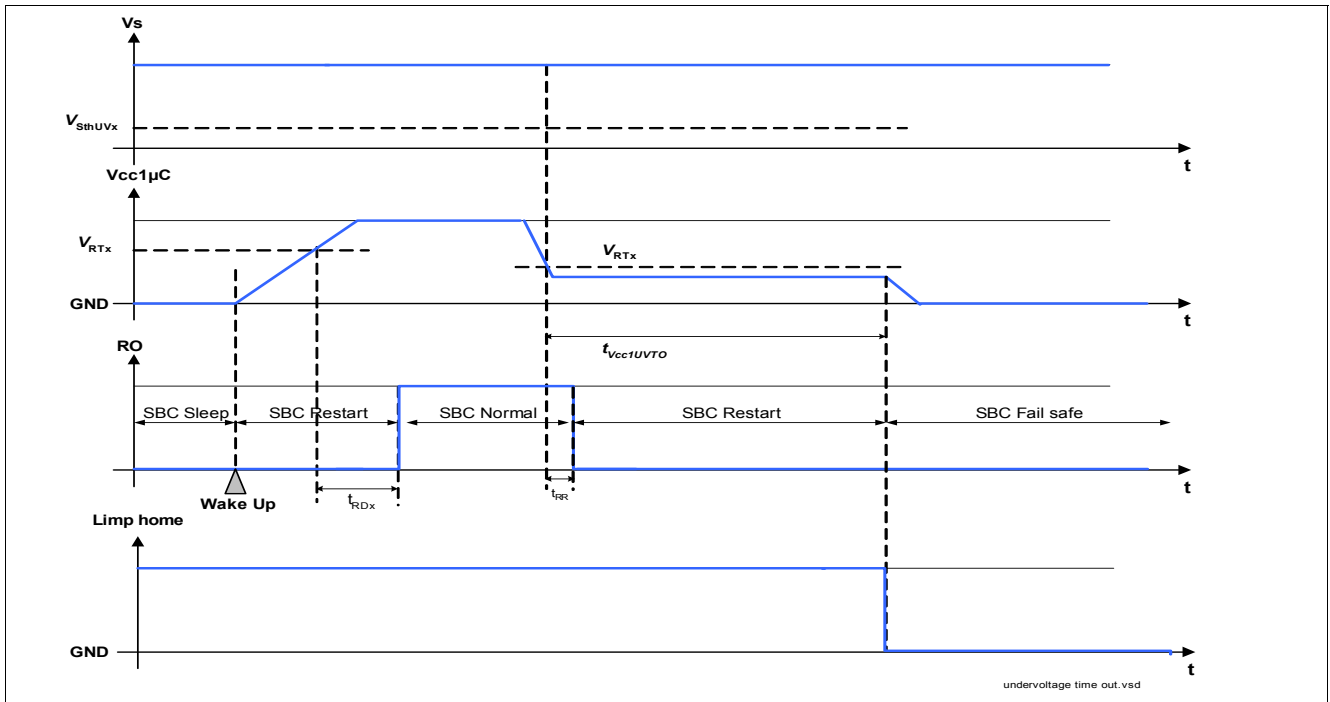

Figure 32  $V_{cc1\mu C}$  undervoltage time-out timing
**Figure 32** gives an example of the Limp Home output activation, due to a  $V_{\text{cc}1\mu\text{C}}$  undervoltage time-out.